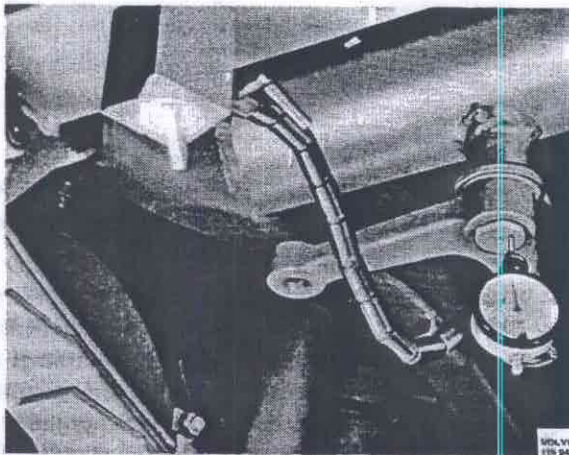

Fig. 64-30. Placing the dial indicator
3. Place a dial indicator according to Fig. 64-30 and measure the axial clearance on the arm.
6. Grease the auxiliary steering arm until the grease squeezes out at one of the ends. Fit the cover (1).